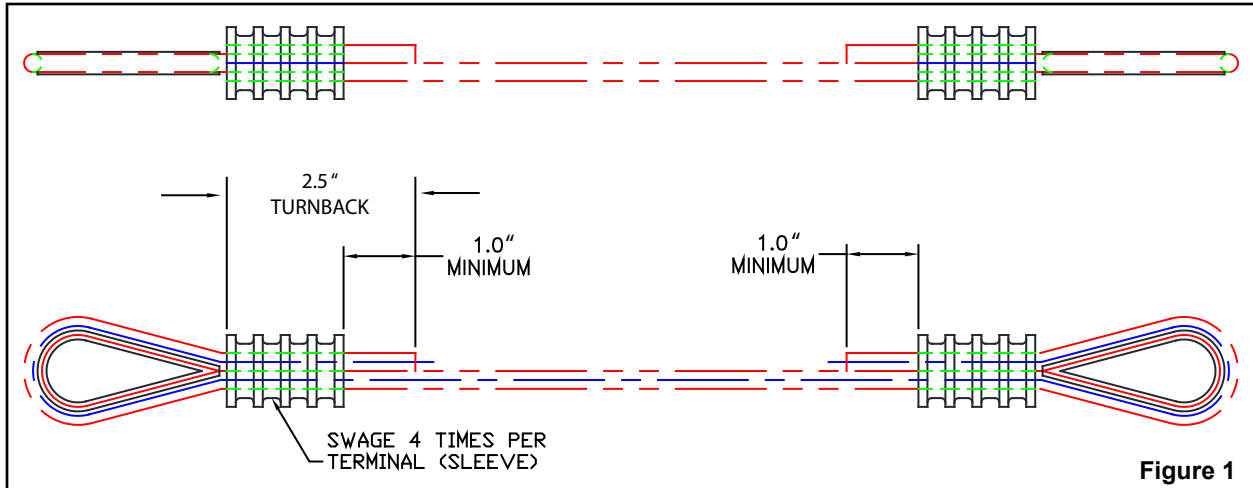

Figure 1
- STEP 2. Turn back a minimum of 2.5" (63.5 mm) of the 1/4" cable rope on the thimble or loop as shown in (Figure 1).
- STEP 3. Assemble components together as shown in (Figure 3) leaving a minimum of 1 .00" (25.4 mm) of the 1/4" cable rope "dead-end" protruding out of the Nycro-Press sleeves as shown in (Figure 1 & 3).
STEP 4. Using a hand or powered swagger press, press the Nycro-Press sleeve (4) times as shown in (Figure 1 & 3).